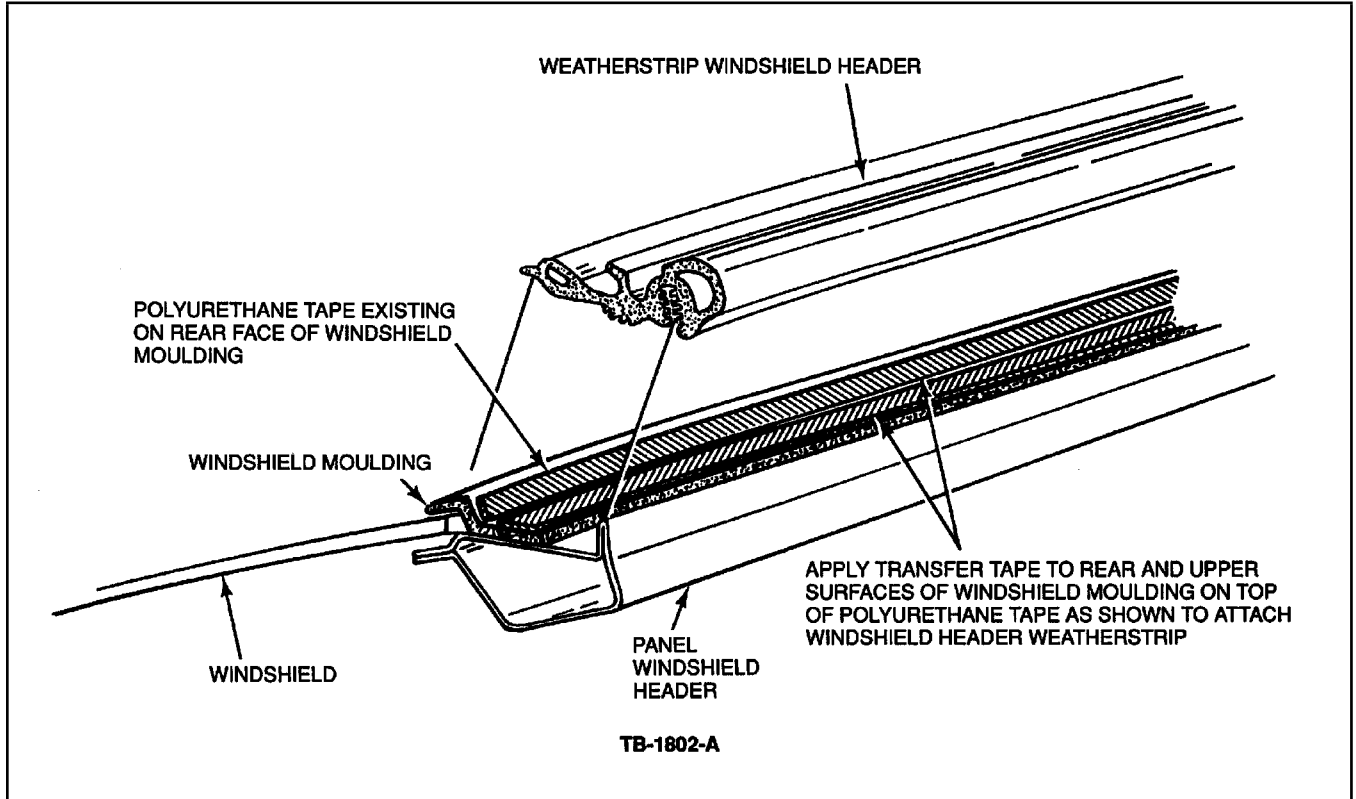

Figure 1 - Article 90-21-3
6. Apply a layer of transfer tape to the polyurethane adhesive tape on the vertical face of the windshield upper moulding, Figure 1.